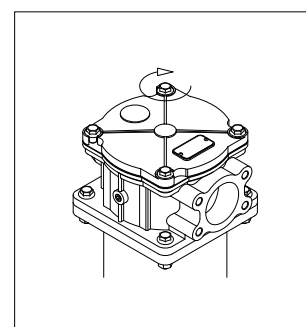

fig. 13
- (Fig. 13) Fasten the cover screws referring to the tightening torque table in paragraph 3